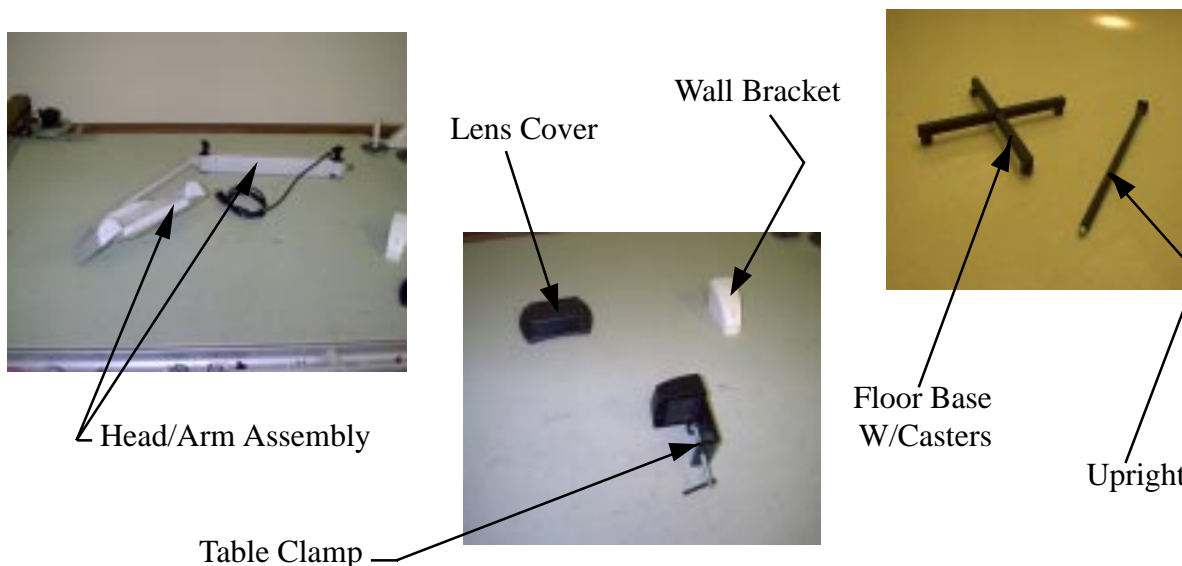

FIGURE 1
- Open the carton(s) and remove all of the contents. Take care when removing the light as the arm assembly will want to spring open. Be careful not to damage items (e.g. glass lens or lamps) as they are removed from the container. While unpacking the carton, thoroughly check for all items that belong to the model you have purchased (See Figure 1). You should have the Medi-Vue Head/Arm assembly, a lens cover and the mounting hardware for your model.